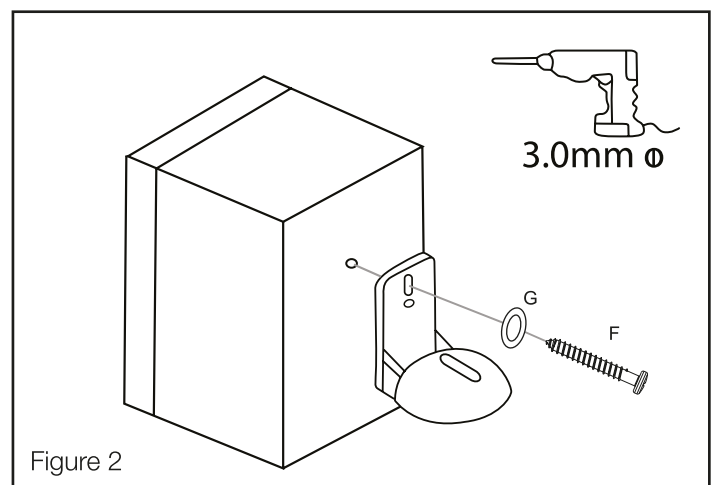

Figure 2
1. If your speakers do not have any pre-cut inserts for mounting on the back of the speaker you will need to drill into the back of your speaker to mount the speaker Wall Plates (see Figure 2).